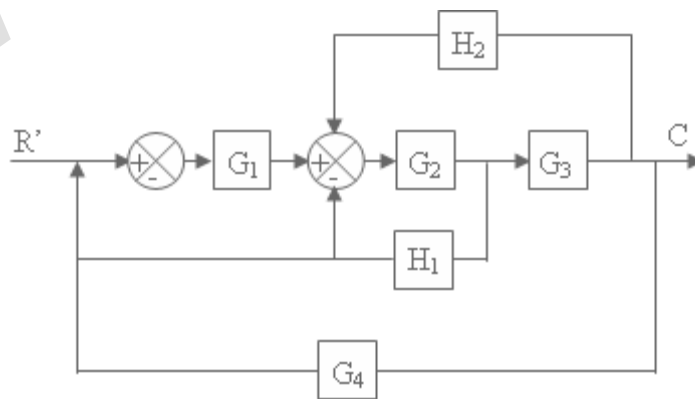

Figure 5:
- (b) Reduce the block diagram shown in figure 5 using block diagram reduction technique and compute  $C(s)/R(s)$ . [8+8]